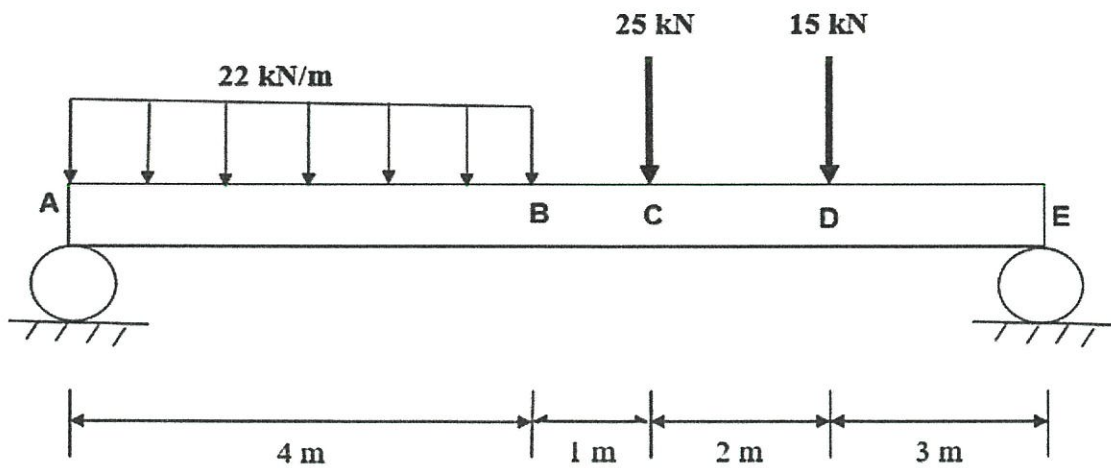

Figure Q4: A Simply Supported Beam
- Q4** A simply supported beam as shown in **Figure Q4** in **Appendix II** is subjected to uniform distributed load of 22 kN/m from A to B, and point loads of 25 kN and 15 kN at points C and D respectively. The beam is supported with roller support at both ends A and E. Given the value of elastic modulus, $E = 200 \text{ kN/mm}^2$ and moment inertia, $I = 10^8 \text{ mm}^4$.